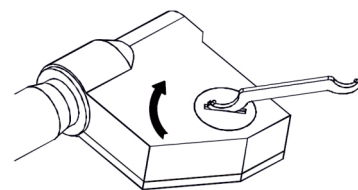

Fig. 3
- » Return the battery cover and secure it by turning it clockwise (Fig. 3).